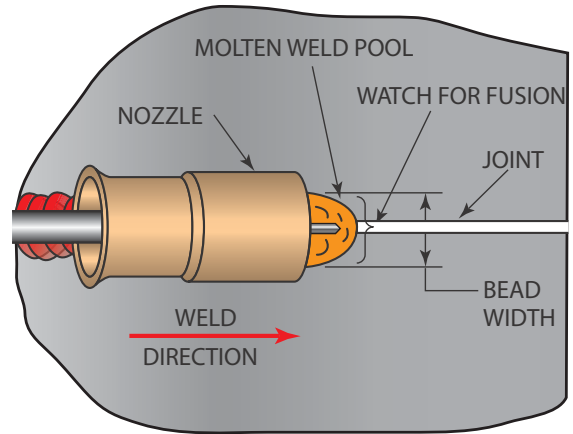

FIGURE 12-7 The shielding gas nozzle restricts the welder's view. © Cengage Learning 2012
- **Joint visibility**—You can easily see the joint where the bead will be deposited, Figure 12-7.